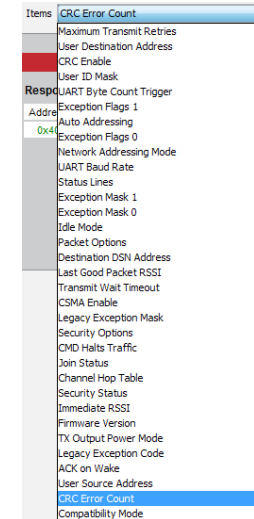

Figure 22: The Master Development System Software Command Set Tab Items Menu
4. The Items drop down menu displays all of the items that are available for the active module (Figure 22). Selecting one of the items from this menu automatically fills in the Command box. The values can be adjusted by typing in the box.